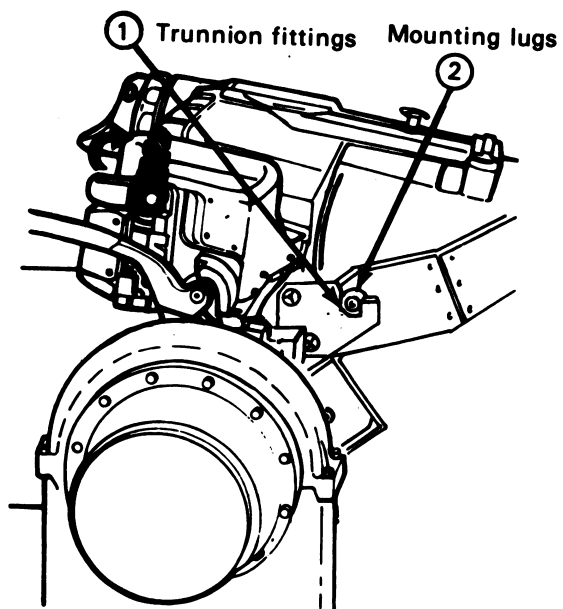

Figure 8. Installing launch tube.
- a. Raise the forward end of the launch tube slightly and place the mounting lugs in the trunnion fittings (fig. 8).